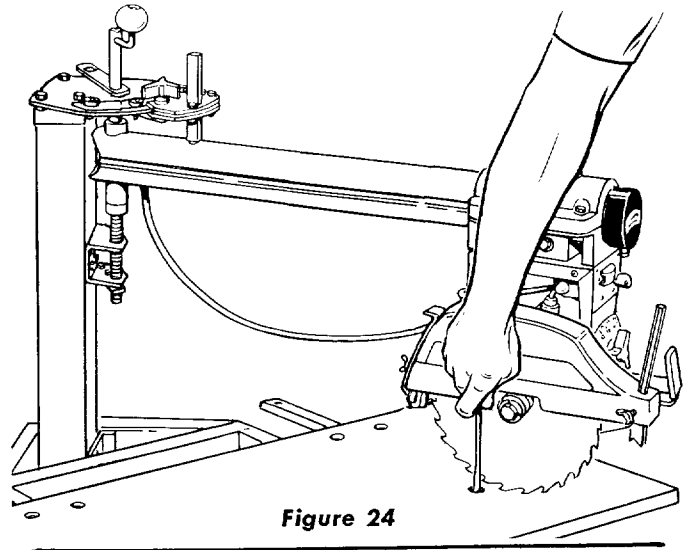

Figure 24
- f. Position the saw adjacent to the right front screw location (figure 24) and adjust the table screw as described in preceding instructions.